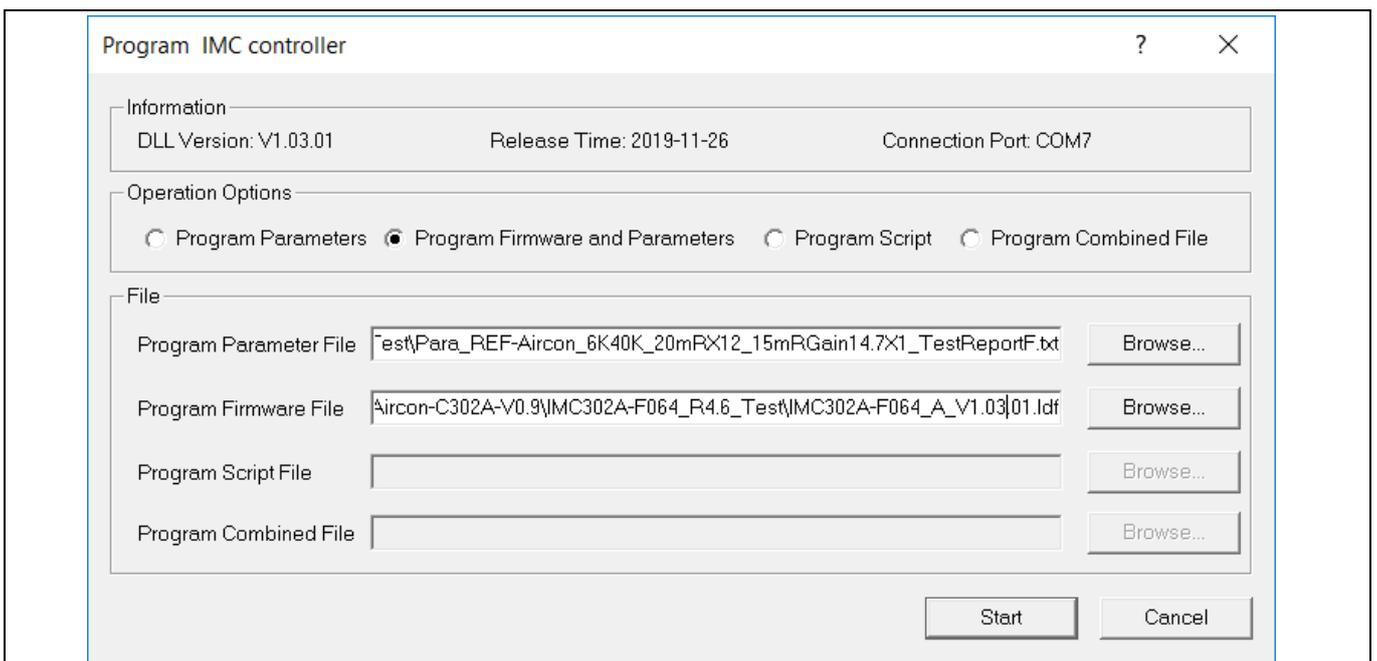

Figure 7 MCEDesigner program page
- 8. In case of blank IC: Do the following to program the firmware and the parameters’ file into the internal Flash memory of iMOTION™ Control IC: Click on system page, click “Tools” > “Programmer” and select “Program Firmware and Parameters,” shown as Figure 7 below. The encrypted firmware is available in IMC302A MCE Software Package, regarding the parameters file, browse and select the .txt file in step 3.